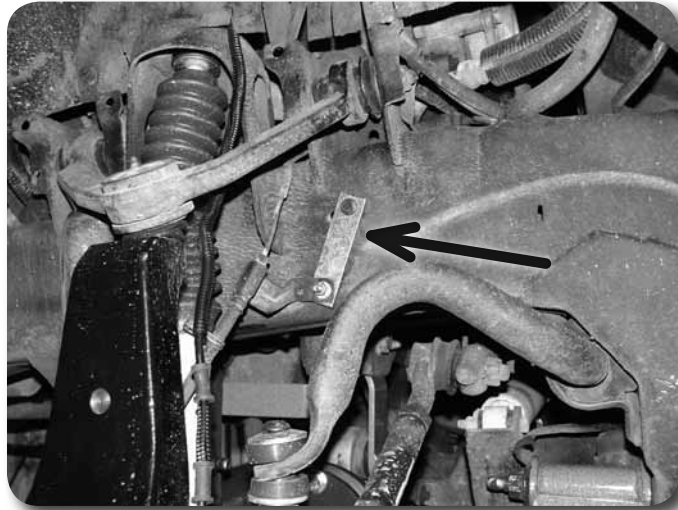

Figure 16
48. Carefully reform the brake hard lines to allow from the brake line to attach to the relocation bracket. It may be necessary to reform the hard line at the caliper slightly as well as the factory bracket. Fasten to the relocation bracket with a 1/4" nut and washer. **Figure 16** Tighten all hardware securely.